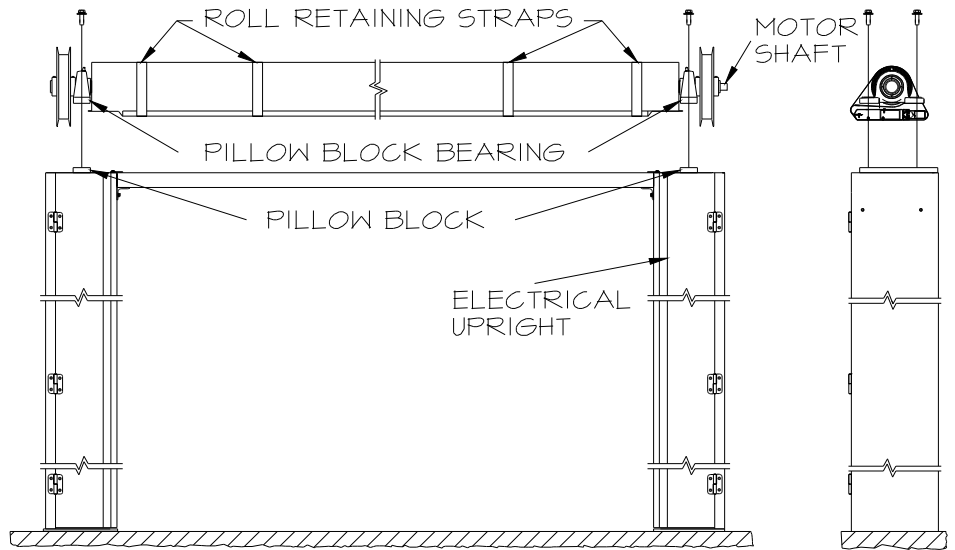

FIG. 6A
- **Align Pillow Block Bearings** over Pillow Blocks in the Uprights (Figure 6a).